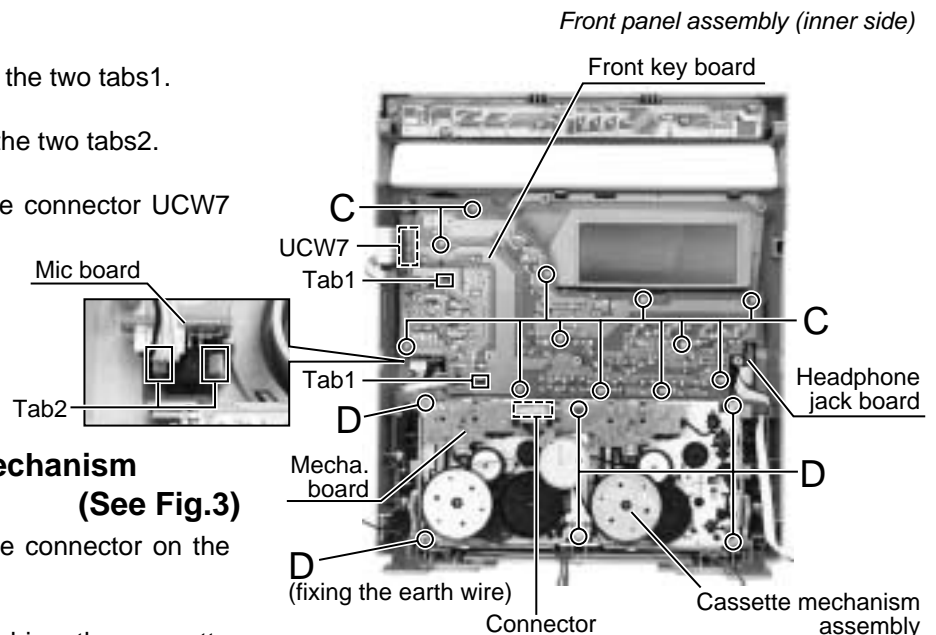

Fig.3
■ Removing the cassette mechanism assembly (See Fig.3)